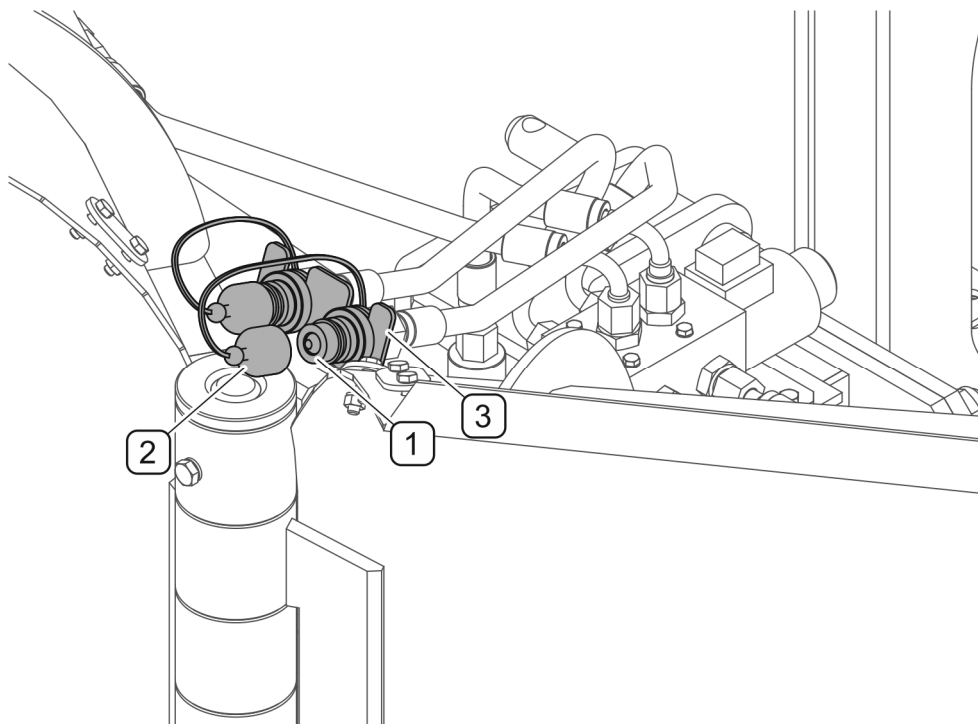

FIGURE 4.9 Protection of hydraulic socket plugs
- protect the plugs of quick couplers of hydraulic conduits against soiling and put them in proper places on the frame support (FIGURE 4.9),